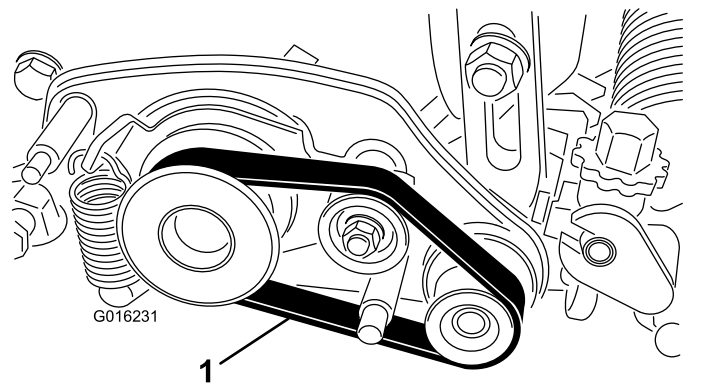

Figure 30
2. Remove the belt from the driver pulley, idler pulley, and driven pulley (Figure 30).